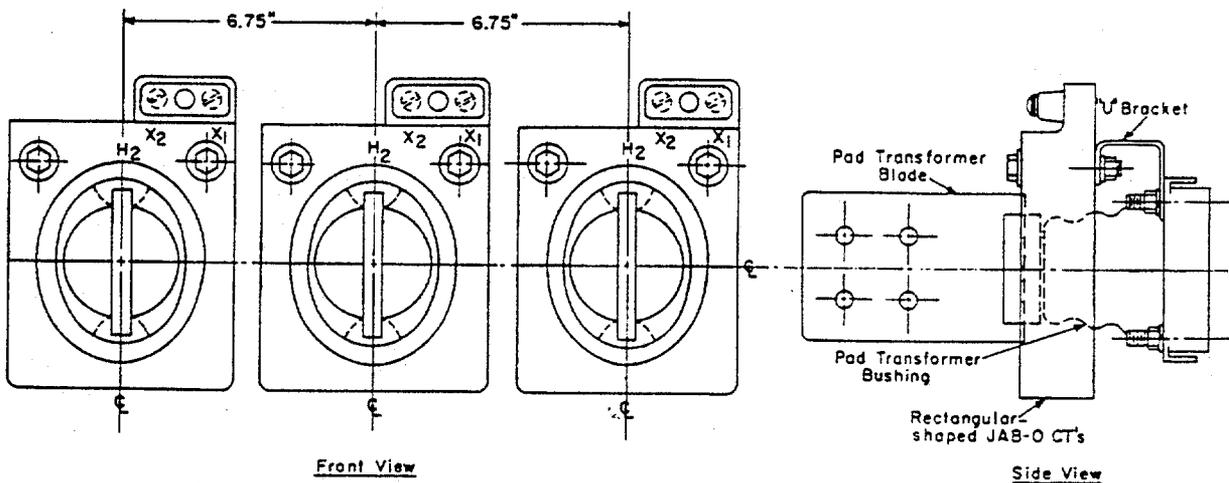

Fig. 9. Three rectangular-shaped JAB-0 CTs mounted to the distribution transformer with special "U" brackets
For large bushing spacings the JAB-0 CT can either be placed: (1) directly on the blade by use of the grabber slots, (2) directly on the porcelain bushing between the blade and the tank wall, or (3) centered on the bushing by use of the special "U" brackets bolted to the CT mounting holes and secured to the bushing flange bolts on the distribution transformer (as shown in Fig. 9). Due to the variety and arrangement of the bolted bushing flange constructions available, it will be necessary to provide detailed dimensional information when placing orders for special "U" brackets.
who require the use of the full window area, can remove the butyl grabber sections (see "WINDOW" page 15-88). For these installations, the customer with either have to fabricate brackets or shelves to hold the CT's on a horizontal plane below the secondary bushings, or else allow them to slide down the cables until they are supported by them. The rectangular JAB-0 design must be used for any cantilever mounting. "U" shaped mounting brackets (see Fig. 9) for the rectangular design can also be furnished.